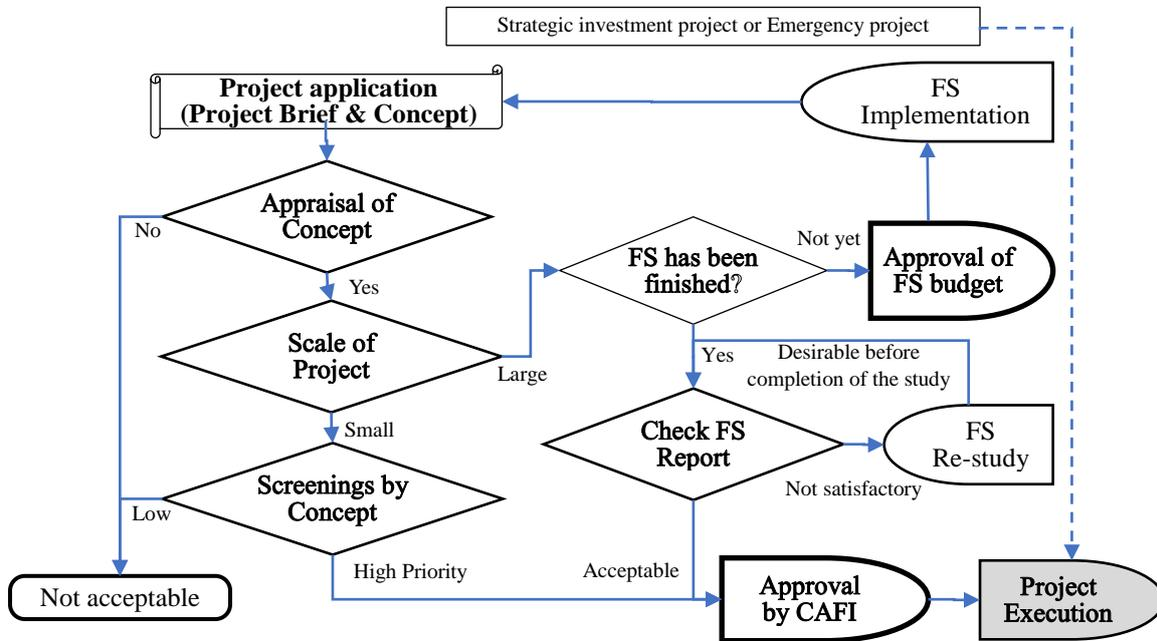

Figure 1-1: FS and Project Execution Process
Now, MPS requests to carry out a **Feasibility Study (FS)** for major projects based on the *dispatch of the Prime Minister*¹ for the project appraisal procedure as shown in the Figure 1-1.